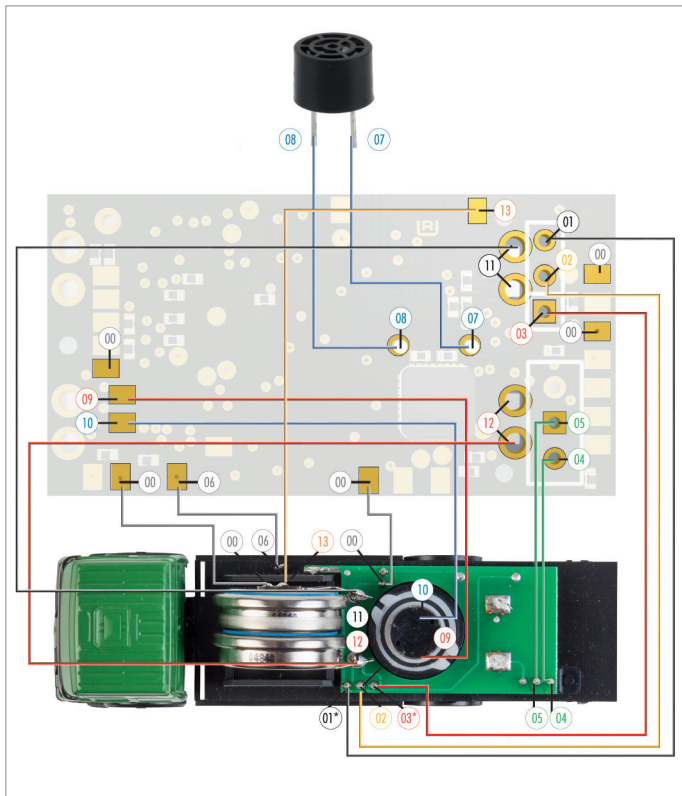

Fig. 42: Connection diagram, type lorry model with universal PCB, soldered batteries
***NOTE:** Pay attention to the "+" (plus) pole you have previously defined and marked at the charging socket, and connect it with pad "03" on the conversion PCB. In connection diagram Fig. 42, pads "01" and "03" are on vehicle side merely examples of pad assignment. See also Chapter "Converting the vehicle".